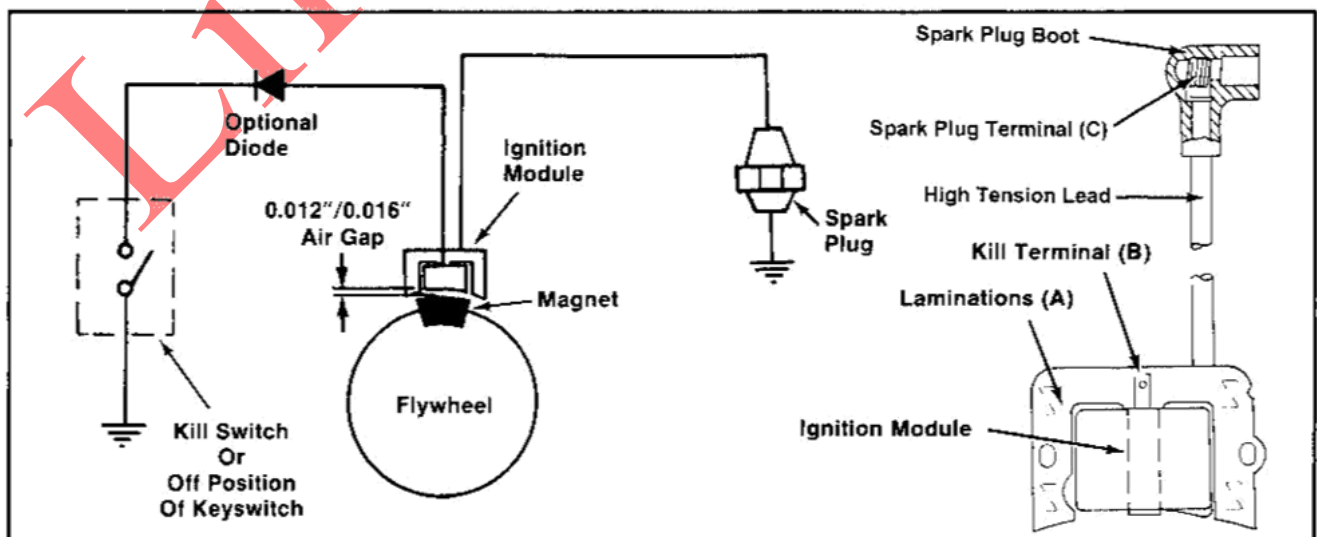

Figure 8-1. Magnum Electronic Magneto Ignition System.
This engine is equipped with a state-of-the-art electronic magneto ignition system. The system consists of the following components (refer to Figure 8-1):
4. Measure the resistance of module secondary using an ohmmeter (see Figures 8-1 and 8-3): Zero ohmmeter before testing. Connect one ohmmeter lead to laminations (A). Connect the other lead to the spark plug terminal (C) of high-tension lead. With the ohmmeter leads connected in this manner, the resistance of secondary should be 7,900 to 20,000 ohms . NOTE: This test cannot be performed unless module has been fired at least once.	4. If the resistance is low or 0 ohms , the module secondary is shorted. Replace the module. If the resistance is high or infinity ohms , the module secondary is open. Replace the module. If the resistance is within the specified range, the module secondary is OK.